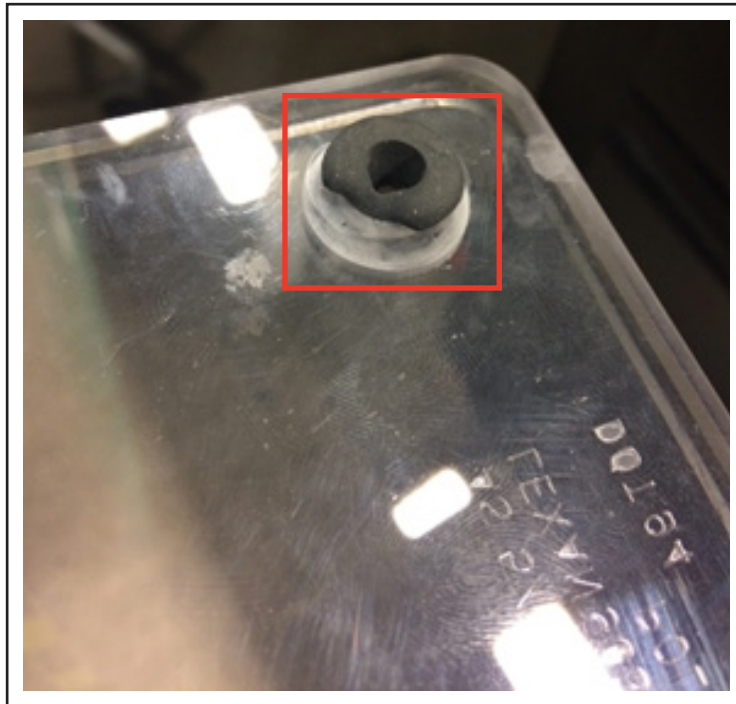

Figure 4 - View of grommet on the Lexan Panel
- 1.7. Once grommet has been removed, if original lexan panel has no cracks, clean the area using alcohol, remove all residual material from the holes on the lexan panels, a soft bristle brush can be used to help get the remaining residue (see figure 4).